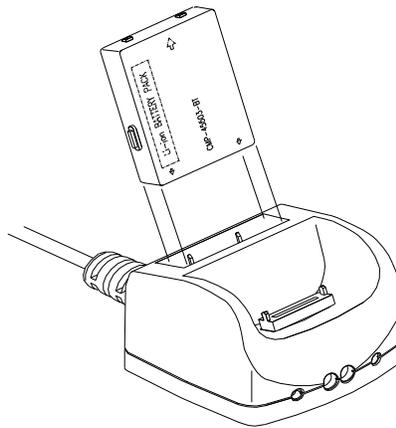

Fig 3
- e. The battery is always charged via the cradle. There are two ways to charge the battery. First, take the battery out from the **TPL7000**, and insert it in the back slot of the cradle for fast charging, as shown in Fig 3, which takes about 3 hours before it is fully charged; second, put the battery in the **TPL7000**, and place it on the cradle, with the **TPL7000** either on or off, for slow charging, as shown in Fig 2. This will need approximately 6 hours. To maximize the battery's life span, it is recommended that slow charging be adopted unless there is a need for fast charging.